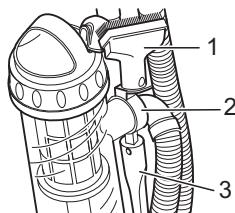

Fig.4
■ The crevice nozzle (Fig. 4/3) and the 2-in-1 combi-nozzle (Fig. 4/1) are included as accessories in the scope of delivery. They can be secured to the accessories mount (Fig. 4/2).
#### - Crevice nozzle (Fig. 4/3)
#### - 2-in-1 combi-nozzle (Fig. 4/1) to be used as: